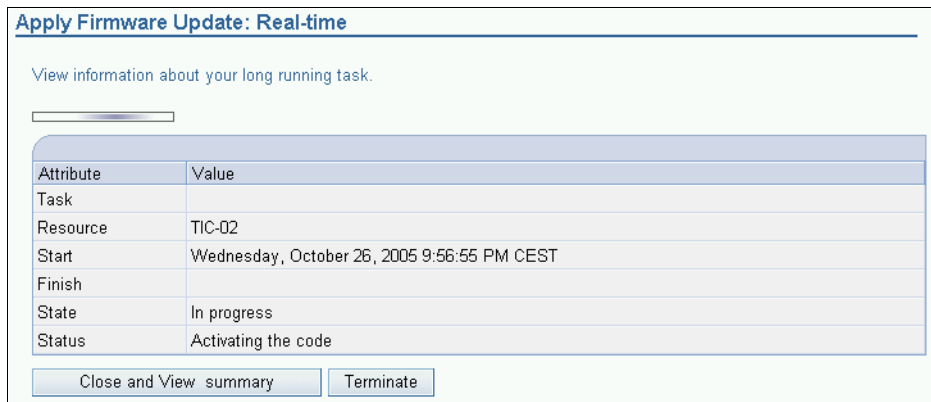

Figure 20-11 Activation of the new microcode being in progress
- While the code activation is running, a new window will display the progress and current status of the code activation (Figure 20-11).